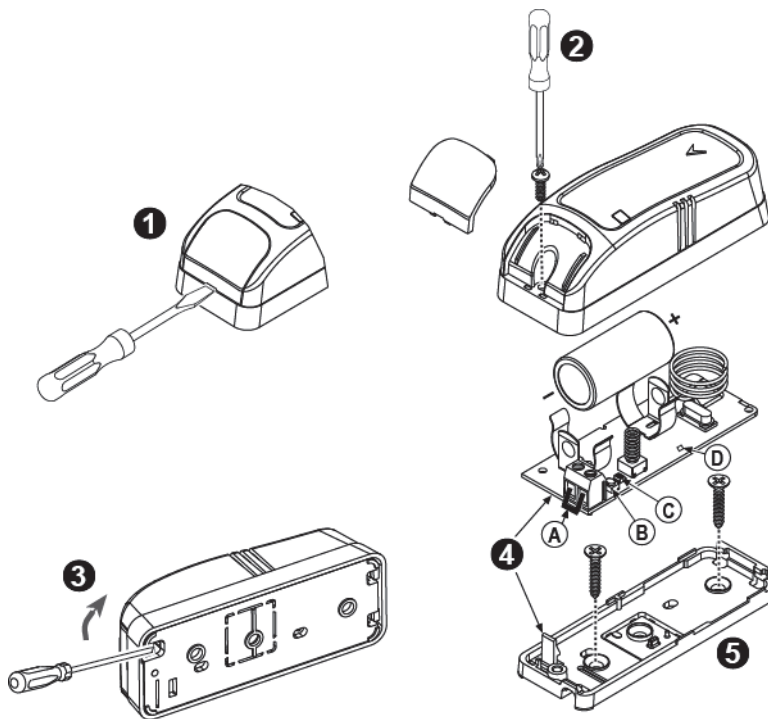

Figure 2. Mounting
For further reliability, the TMD-560 PG2 tamper switch is activated when the detector cover (see Figure 2) is removed. Operating power is obtained from an on-board 3 V Lithium battery. A weak battery will result in a "low battery" message.
2. Insert the battery between the battery clips (see Figure 2), at the correct polarity. **For proper operation, only a Lithium battery (type CR123 or equivalent) should be used.**
Before testing, separate the base from the cover (see Figure 2).